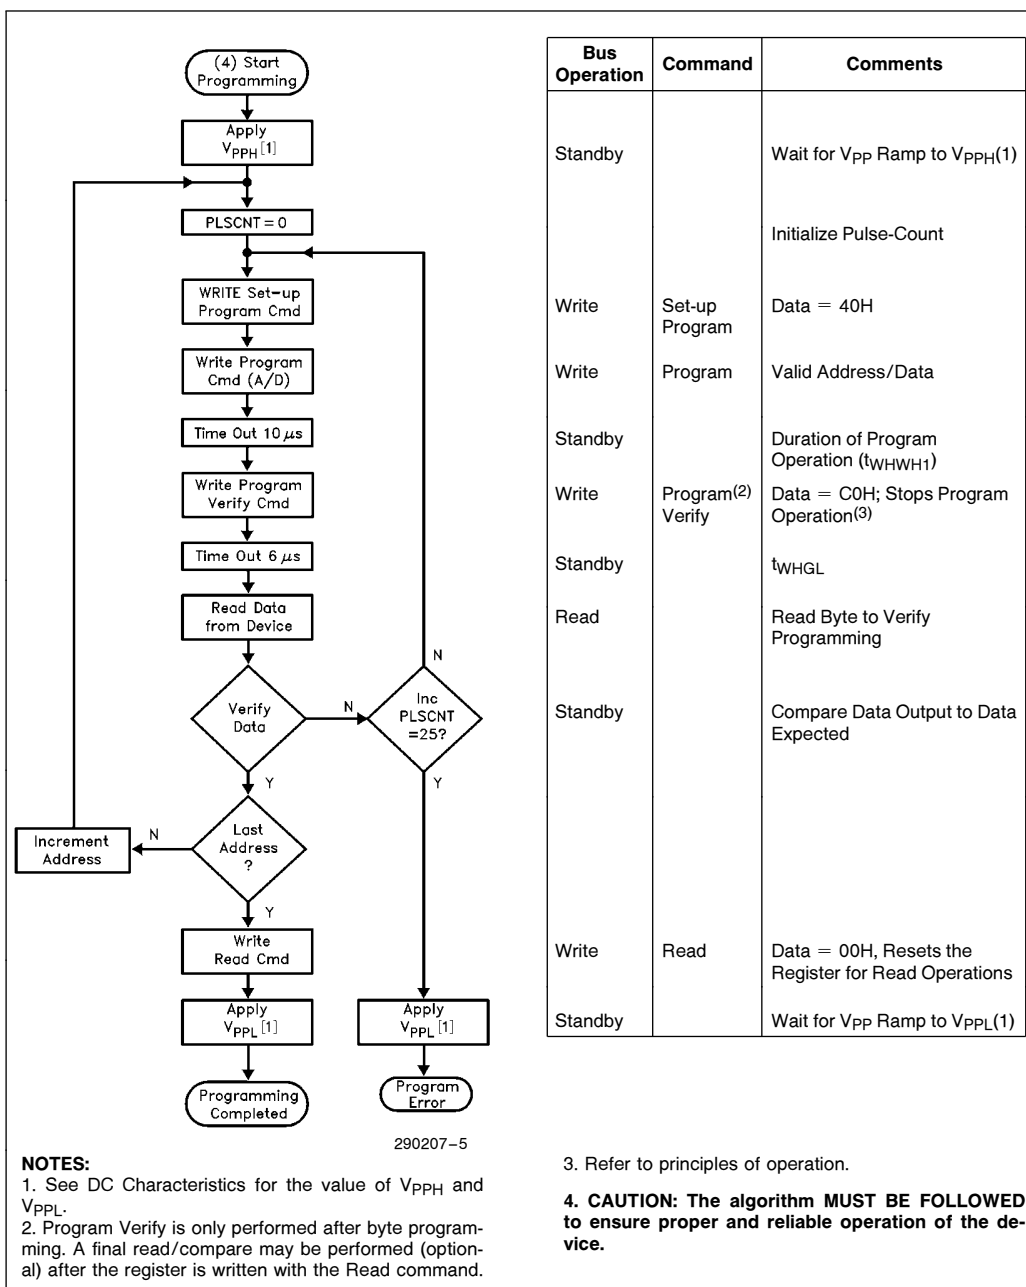

Figure 5. 28F010 Quick Pulse Programming Algorithm
6. Figure 5 illustrates the Quick Pulse Programming Algorithm.
The 28F010 applies an internally-generated margin voltage to the byte. A microprocessor read cycle outputs the data. A successful comparison between the programmed byte and true data means that the byte is successfully programmed. Programming then proceeds to the next desired byte location. Figure 5, the 28F010 Quick Pulse Programming algorithm, illustrates how commands are combined with bus operations to perform byte programming. Refer to AC Programming Characteristics and Waveforms for specific timing parameters.
The Quick Pulse Programming algorithm uses programming operations of 10 μ s duration. Each operation is followed by a byte verification to determine when the addressed byte has been successfully programmed. The algorithm allows for up to 25 programming operations per byte, although most bytes verify on the first or second operation. The entire sequence of programming and byte verification is performed with V_{PP} at high voltage. Figure 5 illustrates the Quick Pulse Programming algorithm.